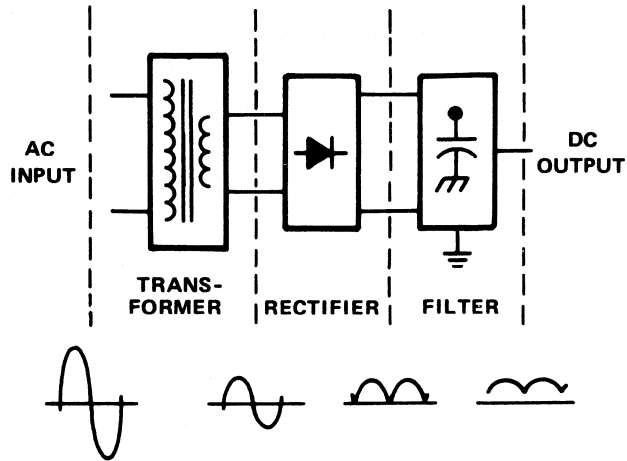
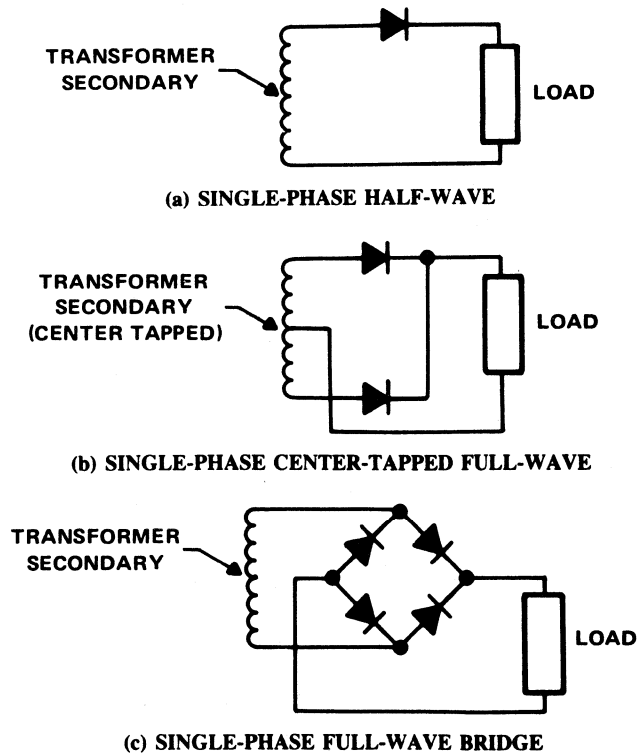

Figure 42. Input Supply
Figure 43. Input Supply Transformer/Rectifier Configurations
The input supply consists of three basic sections: (1) input transformer, (2) rectifier, and (3) filter as illustrated in Figure 42. The first two sections, the transformer and the rectifier, are partially dependent upon each other because the structure of one depends upon that of the other. The most common transformer configurations and their associated rectifier circuits are illustrated in Figure 43.
The particular configuration used depends upon the application. The half-wave circuit [Figure 43(a)] is used in low-current applications. This is because the single rectifier diode experiences the total load current and its conversion efficiency is less than 50%. The full-wave configurations [Figure 43(b) and 43(c)] are used for higher current application. The characteristic output voltage waveforms of these configurations are illustrated in Figure 44.